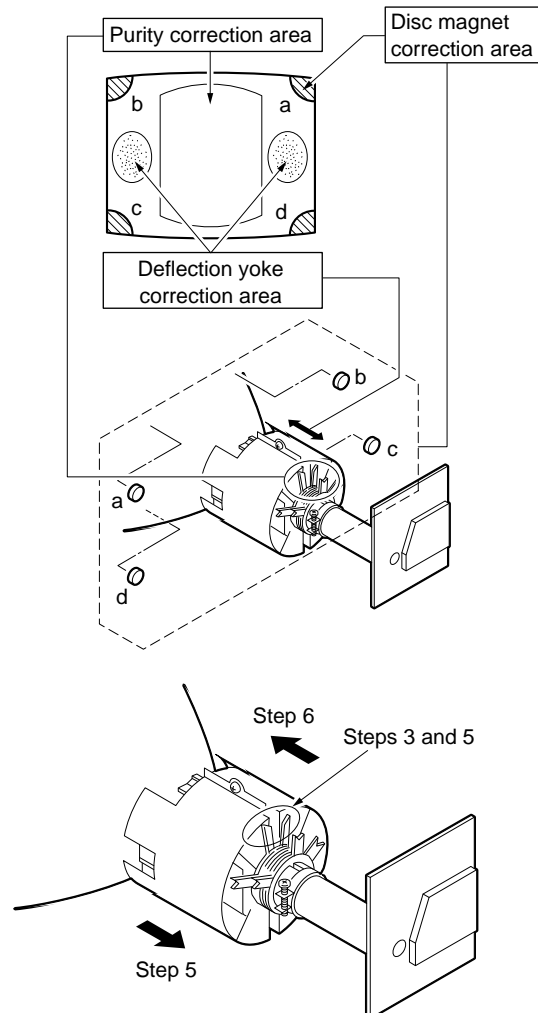

Fig. 3-3
7. When the landing at the corners is not right, correct by using the magnet. (See Fig. 3-3.)